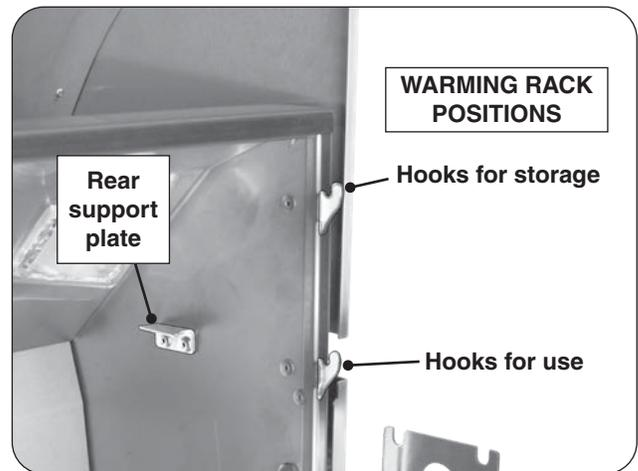

Fig. 24-2 Warming rack hooks
1. Locate the warming rack hooks and rear supports found on the upper portion of the grill oven (see Fig. 24-2).